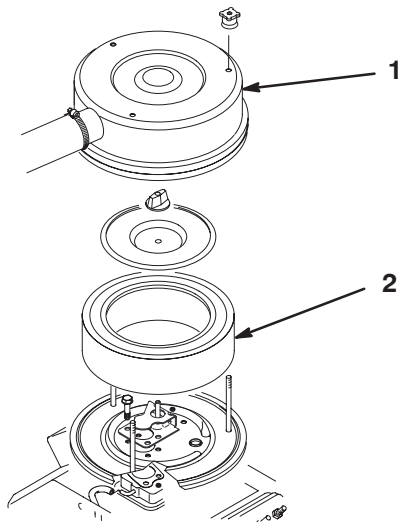

Figure 18
3. Remove the knobs and air cleaner cover (Fig. 18).